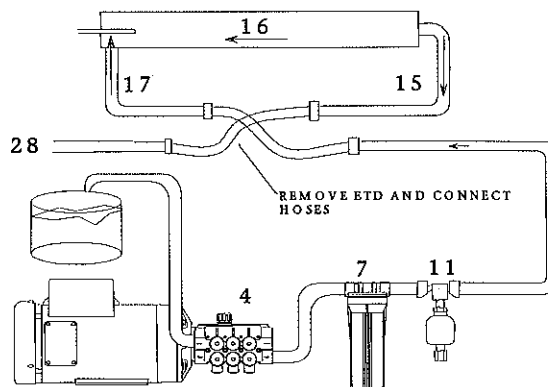

Figure 4.2.2 The overboard bucket dump set-up
12. Empty the 5-gallon container by reconnecting the Brine Discharge line to the Brine Discharge Thru-Hull fitting [28]. See Figure 4.2.2
10. After soaking, empty the 5-gallon container by reconnecting the Brine Discharge line to the Brine Discharge Thru-Hull fitting [28]. See Figure 4.2.2